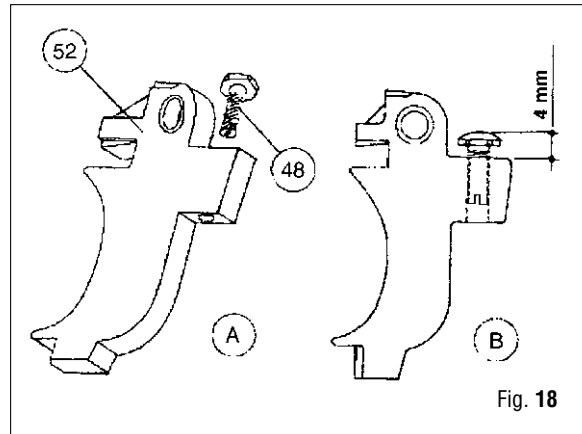

Fig. 18
33. Insert the rounded end of the connecting plunger (45) into the bushing (47) using a special tool A-13 (Ø 1.5 mm) or needle nose pliers.
34. Place o-ring (60) into groove of safety bar (59).
36. Align the safety bar retainer (58) and press it into the safety bar until the latch engages.
37. Install trigger adjustment screw (48) into trigger body (52) (Fig. 18-A). With a 6 mm wrench, tighten trigger adjustment screw (48) into trigger body (52), until it protrudes approximately 4 mm. (Fig. 18-B).
38. Align the hole in the trigger with the holes in the handle (41) and install trigger pin (53).
39. Position the grip (61) on the handle (41) and install grip pin (62), from the power adjustment lever side.
42. Open the jaws and remove barrel (26).
43. With a rotating motion, install tank (25) using jaws (A-3) if necessary.
44. Fill the barrel (26) with oil according to the quantities shown in the table below.